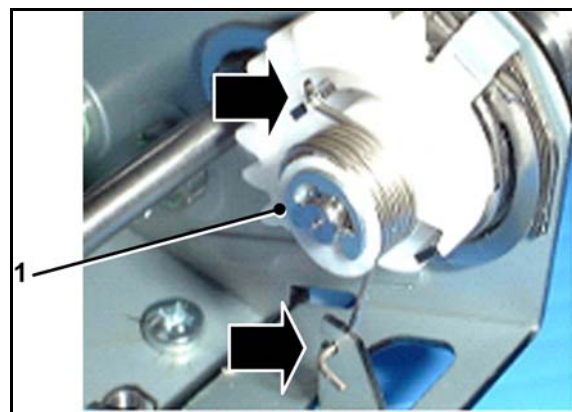

Figure 20
25. Install the new 'E' clip (1) to the end of the spindle to keep the washer in position (see Figure 20).